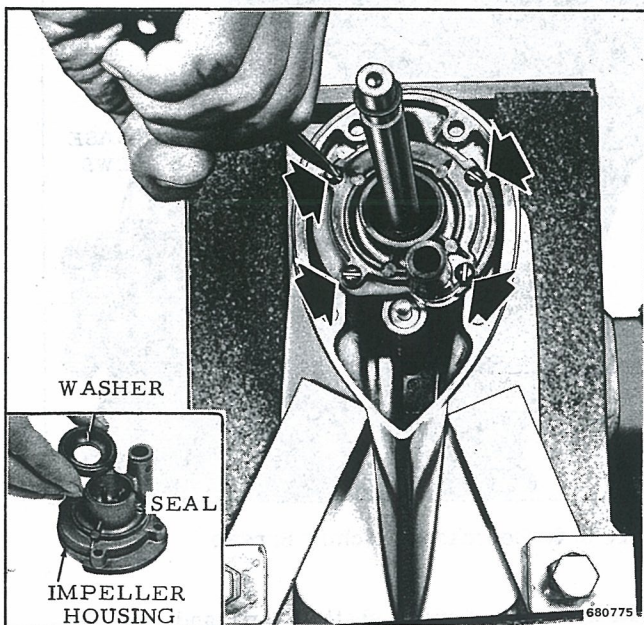
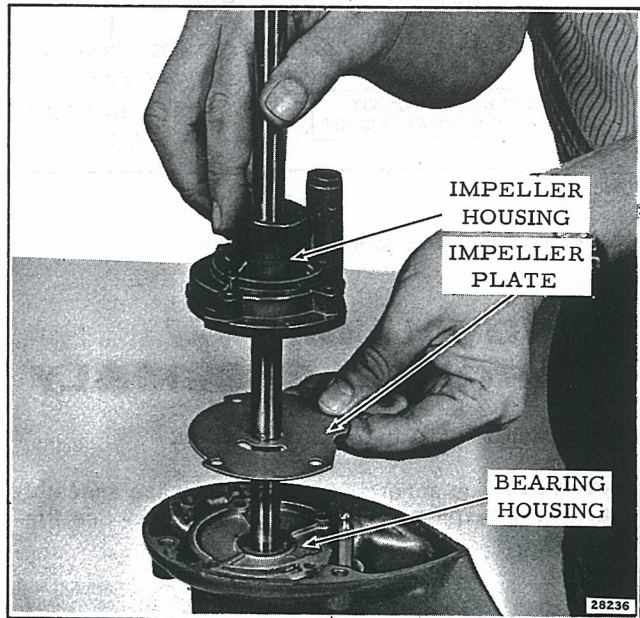

Figure 6-7. Water Pump Attaching Screws
Figure 6-8. Removing Water Pump and Drive Shaft
b. Remove four screws attaching water pump to upper gearcase. See Figure 6-7. Lift water pump, driveshaft, and seal assembly from upper gearcase. See Figure 6-8.
- i. Install impeller housing seal and washer. Be sure seal fits in flat spot. See Figure 6-7.